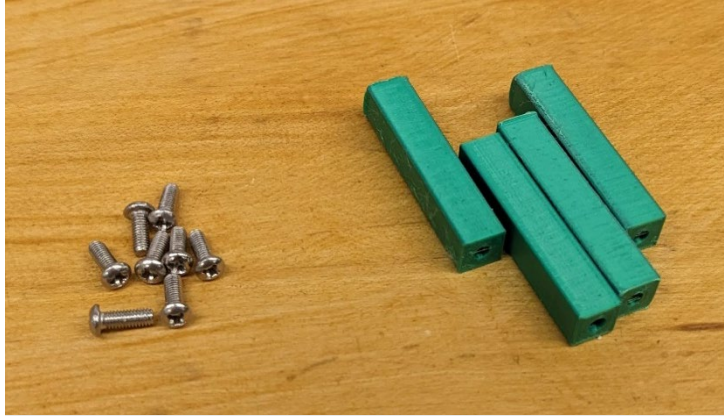

Figure 9: 4 standoffs and 8 8 mm M3 screws
8. Collect 4 standoffs and 4 8mm (about 0.31 in) M3 machine screws as shown in Figure 9.